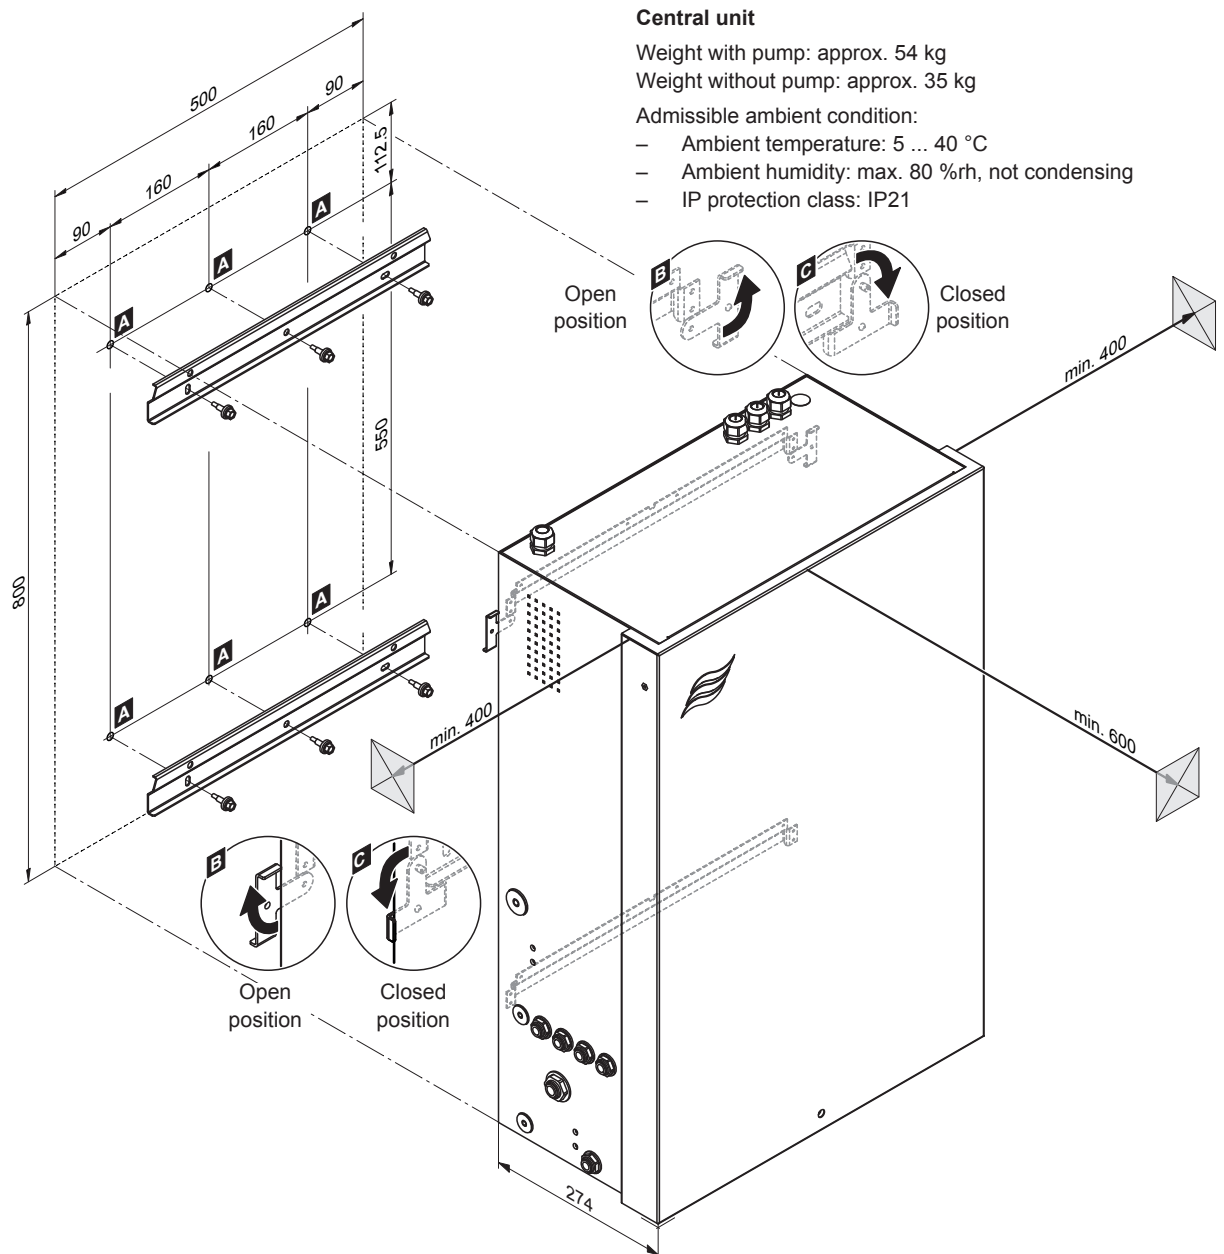

Fig. 34: Mounting the central unit - dimensions in mm
3. Move the locking devices on the back of the central unit to open position (see detail "B" in Fig. 34).
4. Hang up the central unit onto the wall supports. Then, secure the central unit to the upper wall support by turning the locking devices on both sides of the central unit to closed position (see detail "C" in Fig. 34).